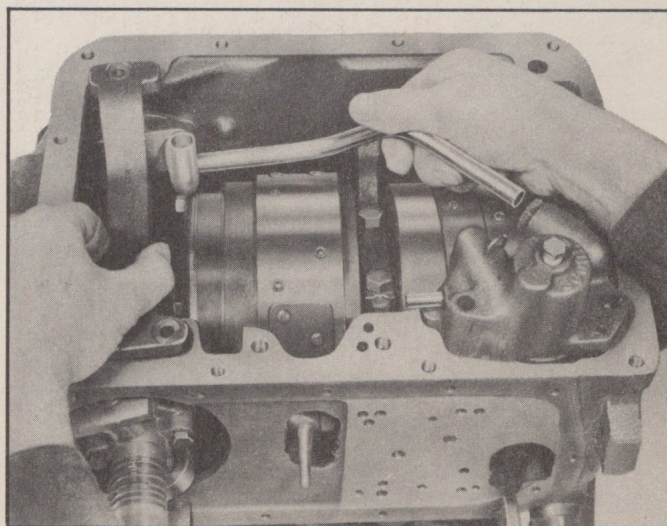

Fig. 119—Removing Rear Pump Discharge Pipe
4. Remove rear pump discharge pipe (Fig. 119).